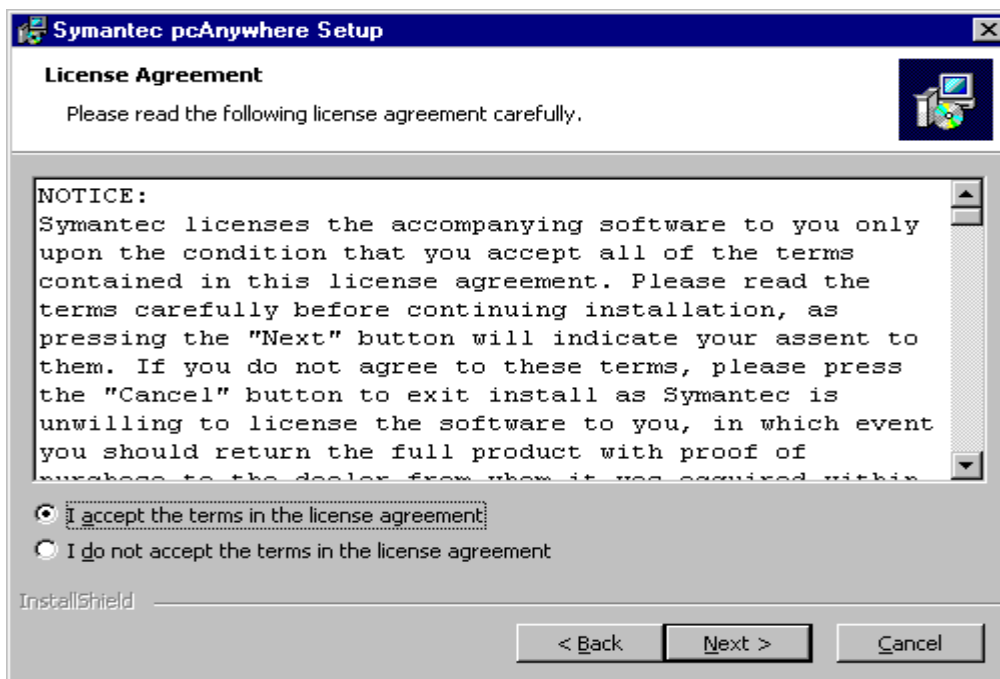

Fig. 17
- Window with "License Agreement" (Fig. 17) is opened.